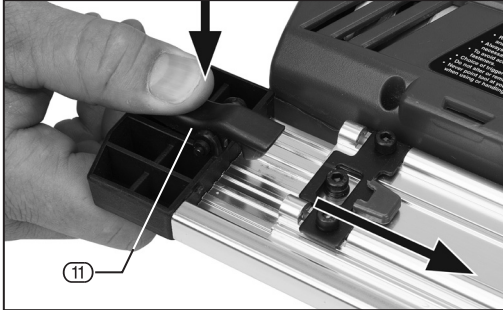

FIG. 1
6.1 LOADING NAILS AND STAPLES – FIGS. 1 - 2